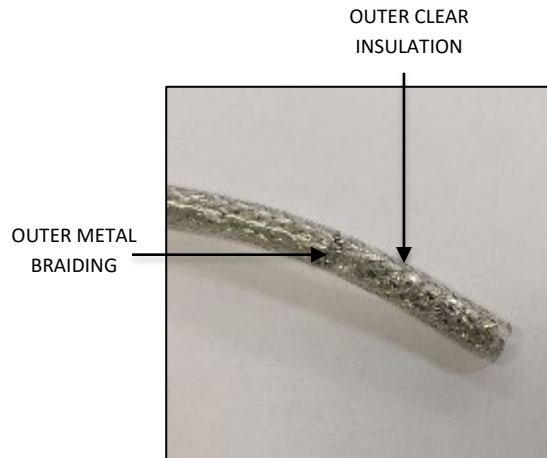
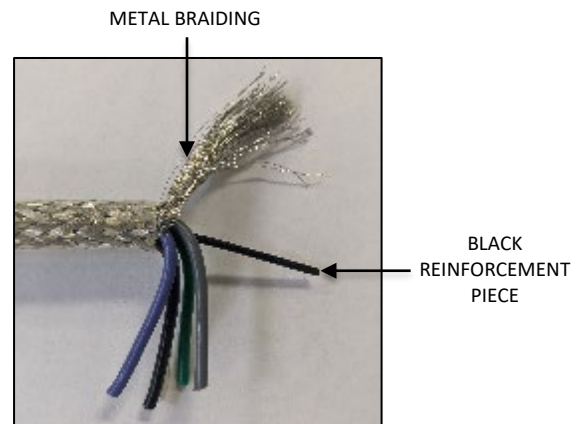

FIG. 17
FIG. 18
1. Strip off 1.00" of outer clear insulation exposing the outer metal braiding as shown in FIG. 17 below. **Be careful not to cut or damage the outer metal braiding.** Gently push braiding down to loosen the individual braids and pull to one side of inner wires. Locate the solid black plastic reinforcement piece (The thinner black wire that has no copper wires inside). Cut the metal braiding and thin black wire back to outer insulation as shown in FIG. 18 below.